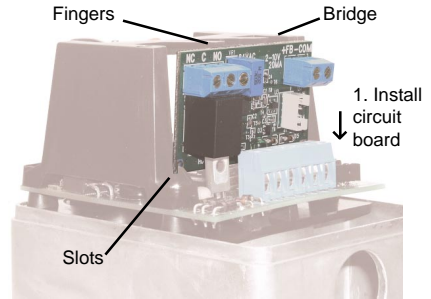

Fig. 1 - Installation of auxiliary board
2. Slide the auxiliary board into the two slots at the bottom of the bridge. Push back and snap the board into the fingers. (See Fig. 1)